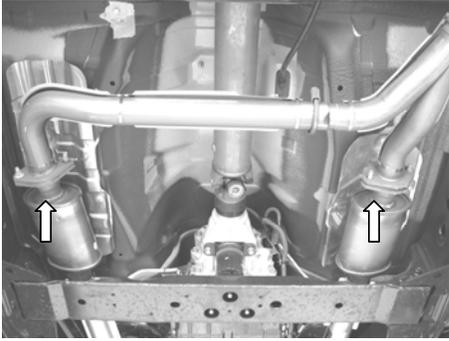

**Figure 1**
1. Unbolt the flange shown in figure 1 located just behind the muffler assembly.